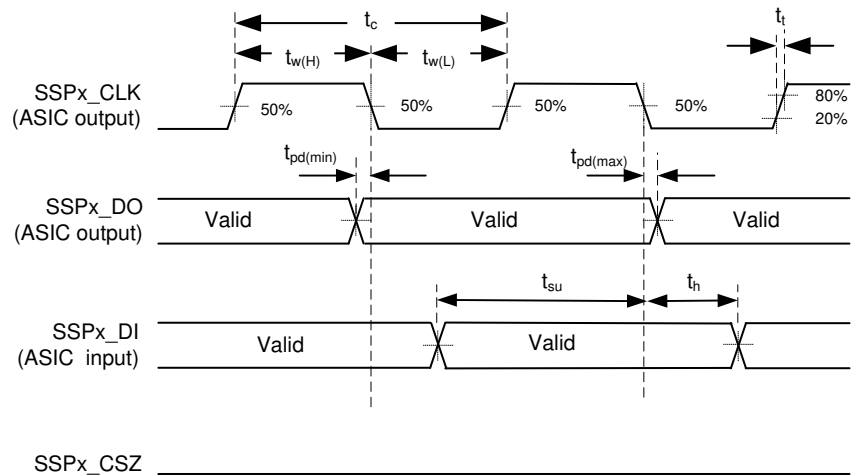
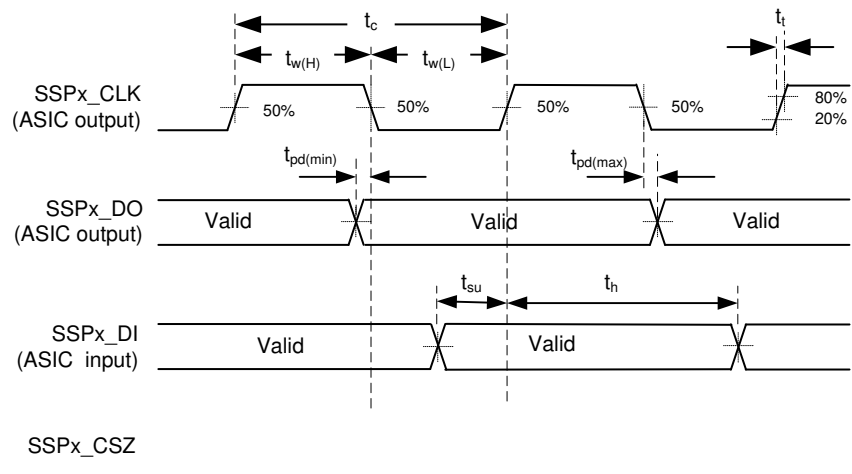

Figure 5-10. Synchronous Serial Port Interface—Master (Modes 0/3)
Figure 5-11. Synchronous Serial Port Interface—Slave (Modes 0/3)
- (1) The SSP is configured into four different modes of operation by the controller firmware. These modes are shown in Table 5-2, Figure 5-10, and Figure 5-11.
- (2) SPI Modes 0 and 3
- (3) SPI Modes 1 and 2